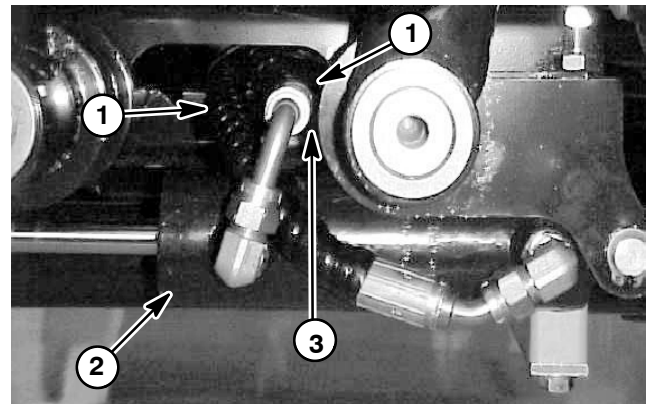

Figure 13
5. Route hydraulic hoses so they clear the lift arm by 0.040" to 0.120" (1.0 to 3.0 mm) when the lift arm is fully raised (Fig. 13).